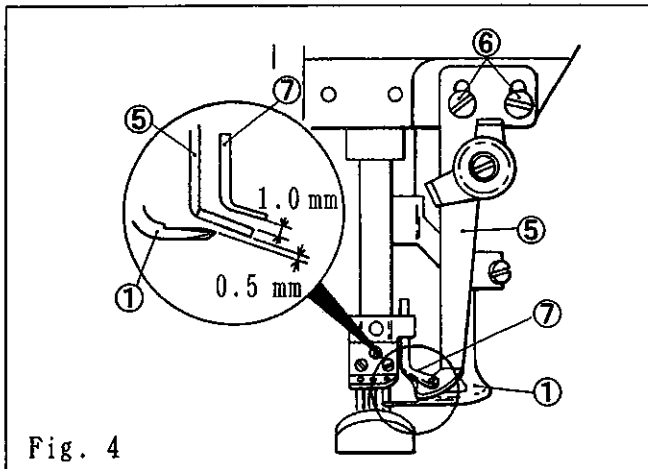

Fig. 4
- (2) When the needle bar is at its bottom, make a distance of 1.0 mm from the guide⑤ to the top cover thread eyelet⑦. (Fig. 4)